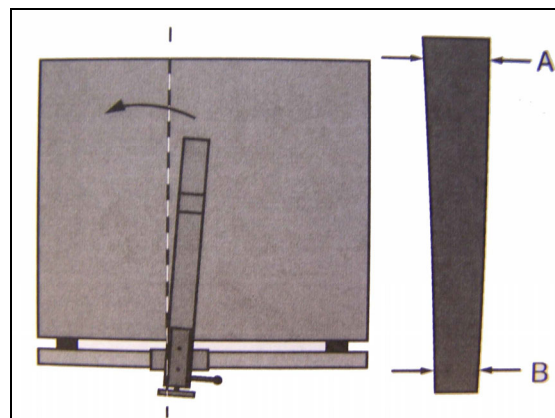

Figure 1
3. If the width of 'A' is greater than 'B' then the fence needs to be adjusted as in Figure 1.